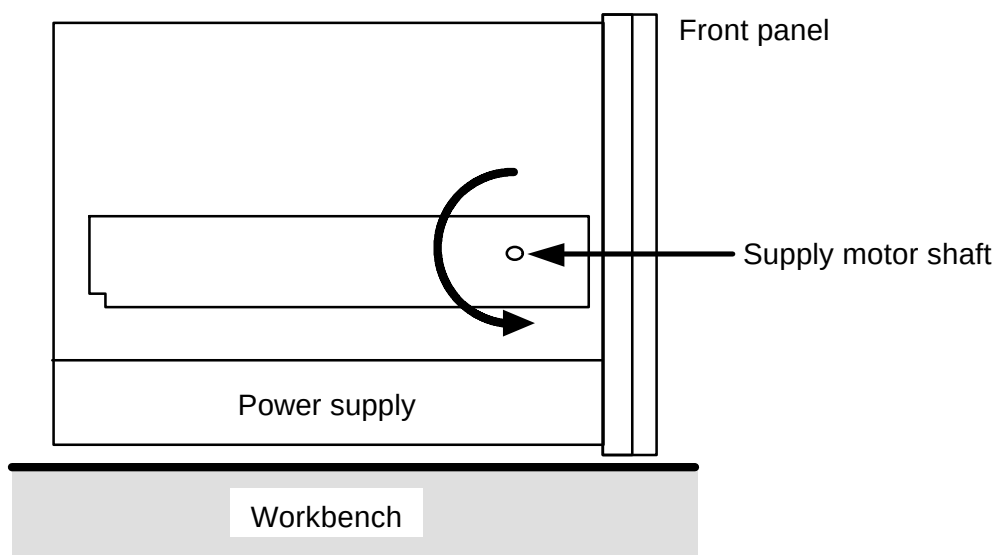

Figure 6-12 Bottom View
- 1) Always turn off the power. Place the drive so the power supply is in the bottom position. (Refer to Figure 6-12.) Continue the following operation if the tape does not fall down from the tape path.
- 3) Insert the 3mm-hexagon wrench into the supply motor shaft shown in Figure 6-12. Be careful when performing an operation so the wrench does not contact the circuit boards around the supply motor shaft.